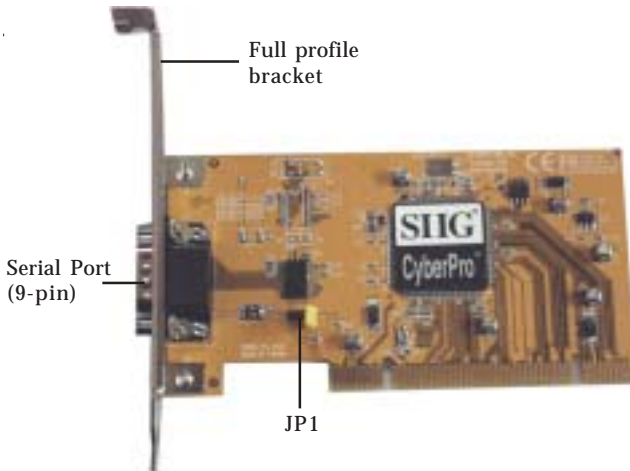

Figure 1. Layout
5. Set **JP1** jumper settings to the desired voltage only if your serial device needs additional power from the serial port. However, most serial devices do not require additional power. For more information go to **Figure 1** on page **2**. Skip this step if power is not required.